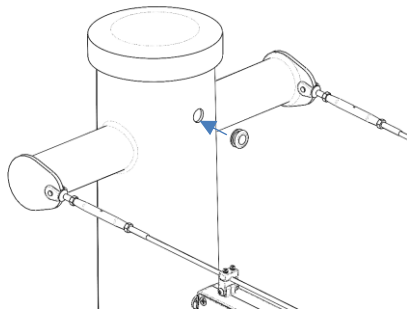

Fig. 15 Grommet Installation
3. Install provided rubber grommet at the top of the pole near the driver housing as shown in Fig. 15.